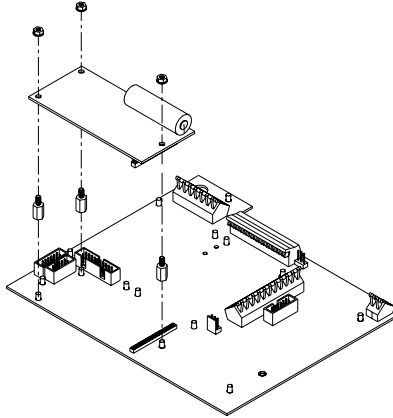
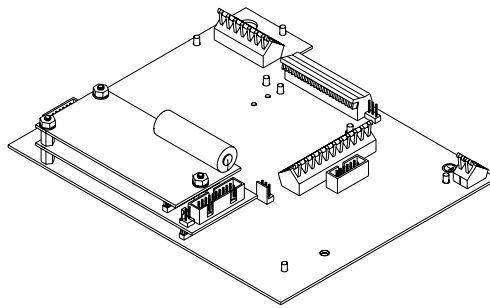

Figure 10-1: Database Module Installation
Figure 10-2: Database Module On Top of The LCD Interface
The 660 Series Bus Options are mounted directly on the 660 Series main board using the hardware included in the kit. See Figure 10-1 or Figure 10-2 for database module installation in the 660 Series controllers.
1. Install three aluminum standoffs on the three short studs protruding through the main board using a 6mm socket or wrench. See Figure 10-1.
The 662, 665 LCD, and 663 LCD will have an LCD Interface Board installed upon the J9 main board connector. The database module is designed to mount directly on top of the LCD Interface Board. See Figure 10-2.